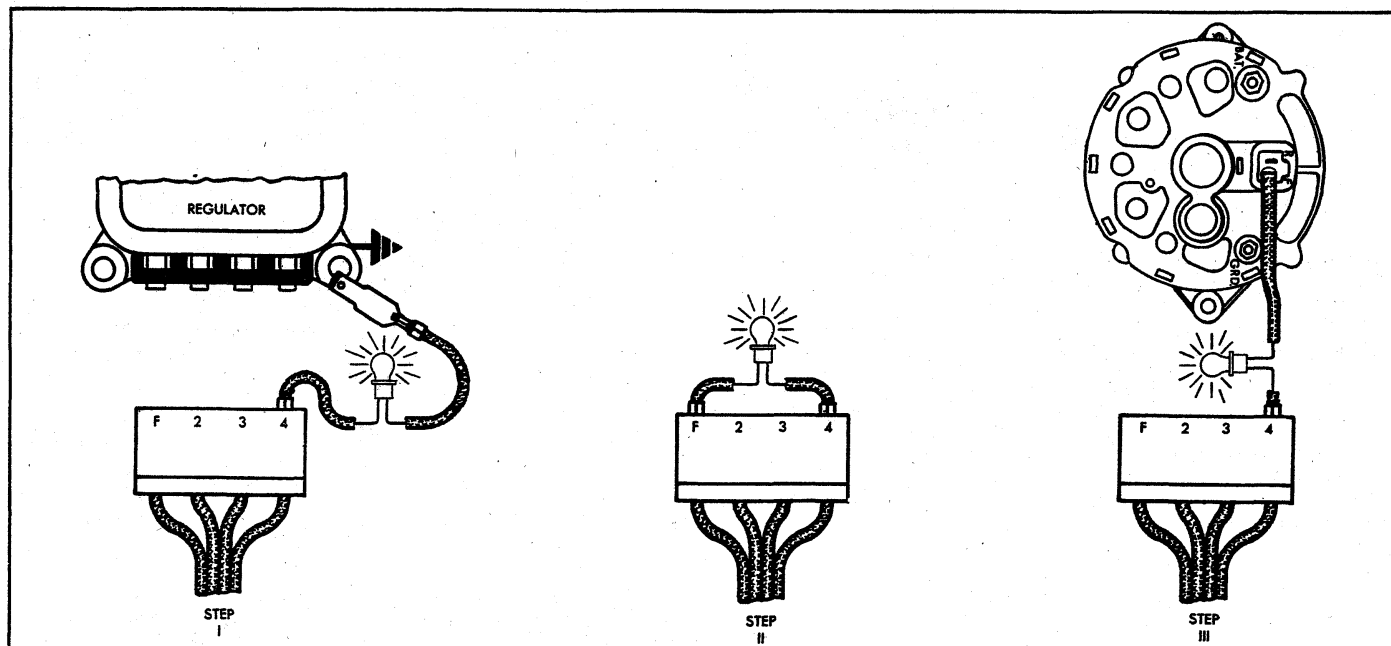

Fig. 10c—Initial Field Excitation Circuit Tests
INDICATOR LAMP/INITIAL FIELD EXCITATION CIRCUIT TESTS (Fig. 10c)
1. Disconnect connector from regulator and turn ignition switch to "ON". Connect a test lamp from connector terminal "4" to ground (fig. 10c, Step 1) and note test lamp.
2. Disconnect lamp lead at ground end and connect between connector "F" and "4" terminals (fig. 10c, Step 2), and note lamp:
connect to "F" terminal on Delcotron (fig. 10c, Step 3), and note lamp:
- Connect a test lamp from the wiring harness connector terminal "4" to ground as shown in Figure 10c (Step 1).